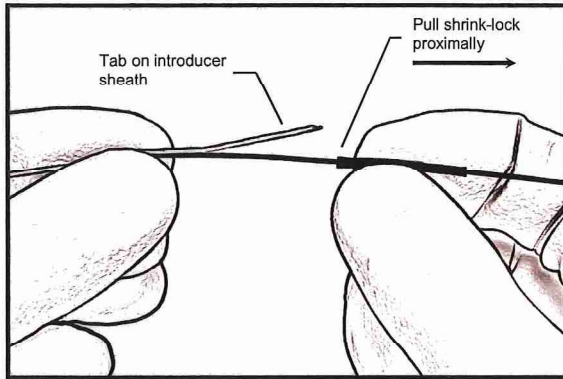

Figure 3 - Pull Shrink Lock Proximally
15. Hold the device just distal to the shrink-lock and pull the shrink-lock proximally to expose the tab on introducer sheath. See Figure 3.